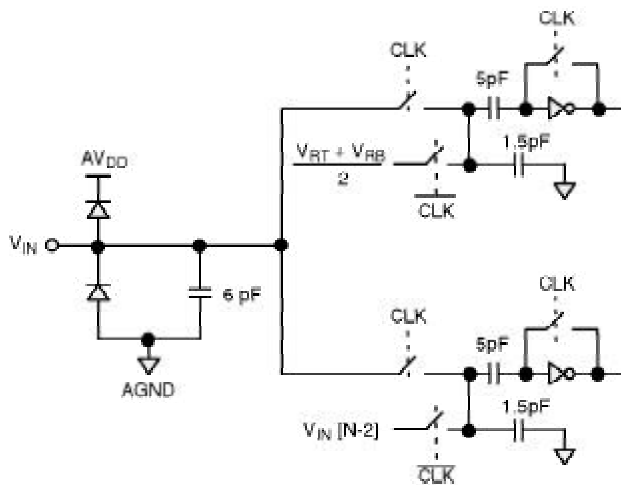

Figure 5. Equivalent Input Circuit
- See V_{in} input equivalent circuit (Figure 5). Switched capacitor analog input requires driver with low output resistance.
The reference can be biased internally by shorting V_{RT} to V_{RTS} and V_{RB} to V_{RBS} . This will generate $0.4V$ at V_{RB} and $1.72V$ at V_{RT} (see Figure 5).